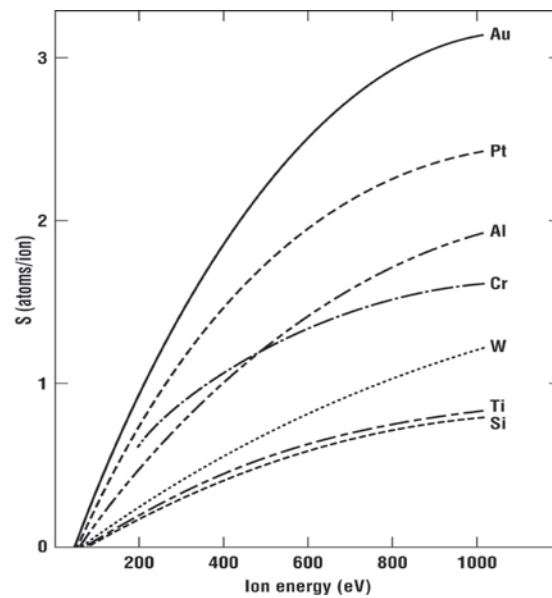

Figure 4: Sputter yield for a variety of materials
- (iv) The dc potential between the plasma and the target in a sputtering system is 523 V. What is the energy of a singly ionized argon atom (Ar^+) will gain while crossing the space between the plasma and the target? Find the sputter yield for an aluminium target based on Figure 4?